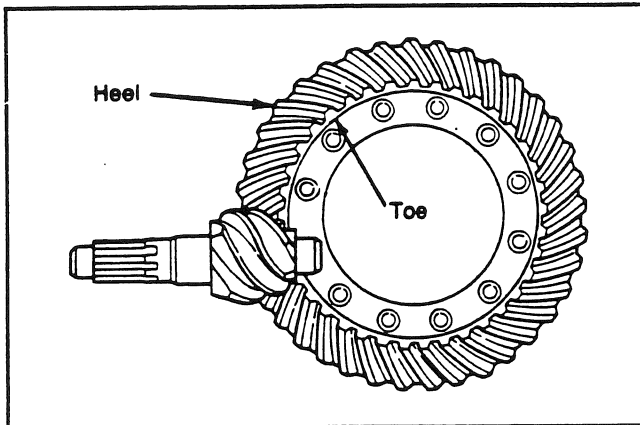
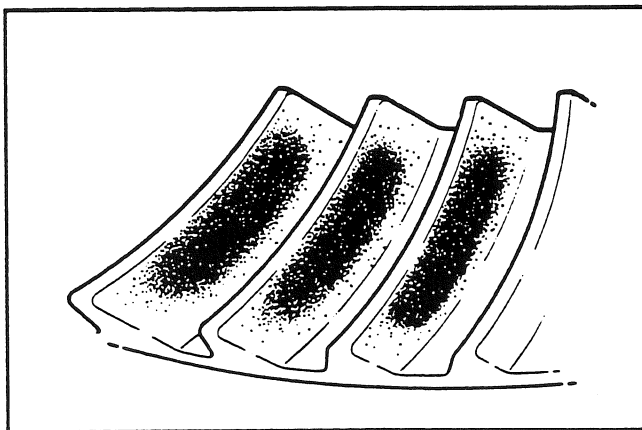

Fig. 77
Fig. 78
1. In the following procedure, the contact pattern movement in the length of the tooth is shown as toward the "heel" or "toe" of the ring gear (see Fig. 77). Always check tooth contact patterns on the drive side of the gear teeth (see Fig. 78).